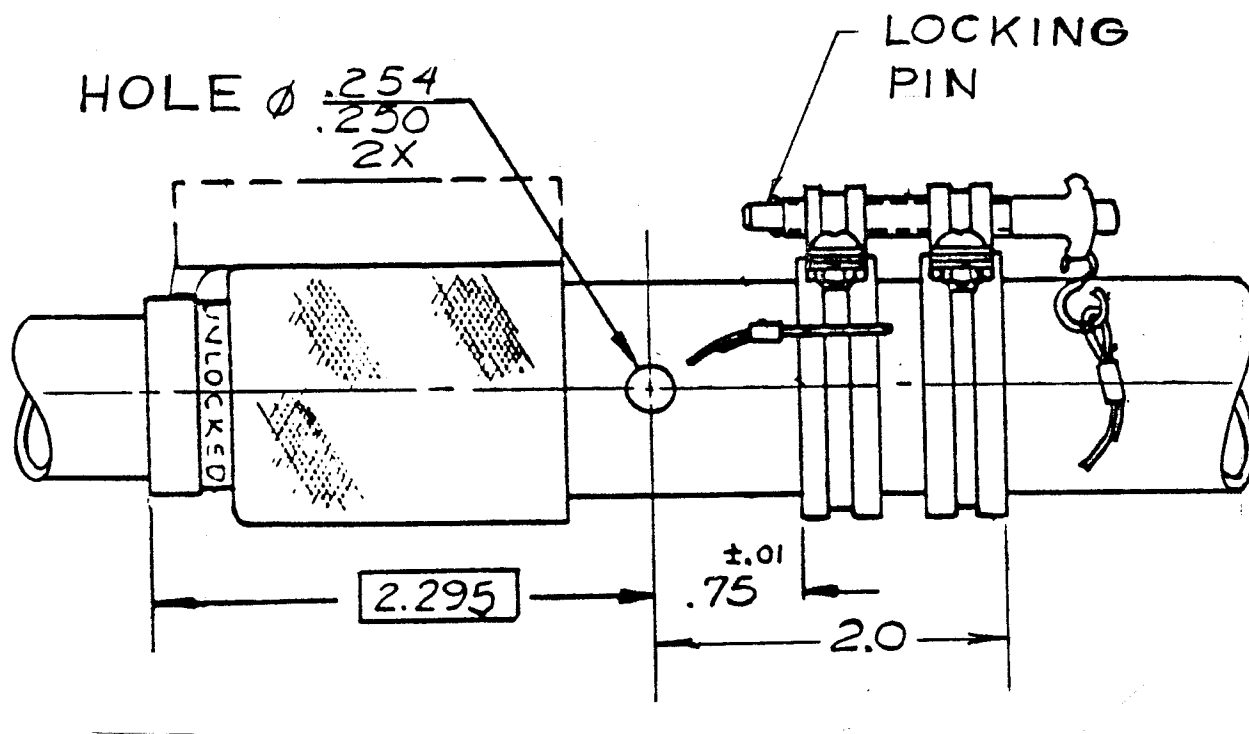

FIGURE 3 - LOCKING PIN ASSEMBLY
- (1) Extend strut to its fully extended and locked position. Locate hole for locking pin at 2.295 inches (58.29 mm) from face of outer tube (80) as shown in figure 3.
- (2) Drill 0.250 inch (6.35 mm) diameter hole through both sides of outer tube (80). Deburr edges of holes and completely remove metal chips from inside of outer tube (80).